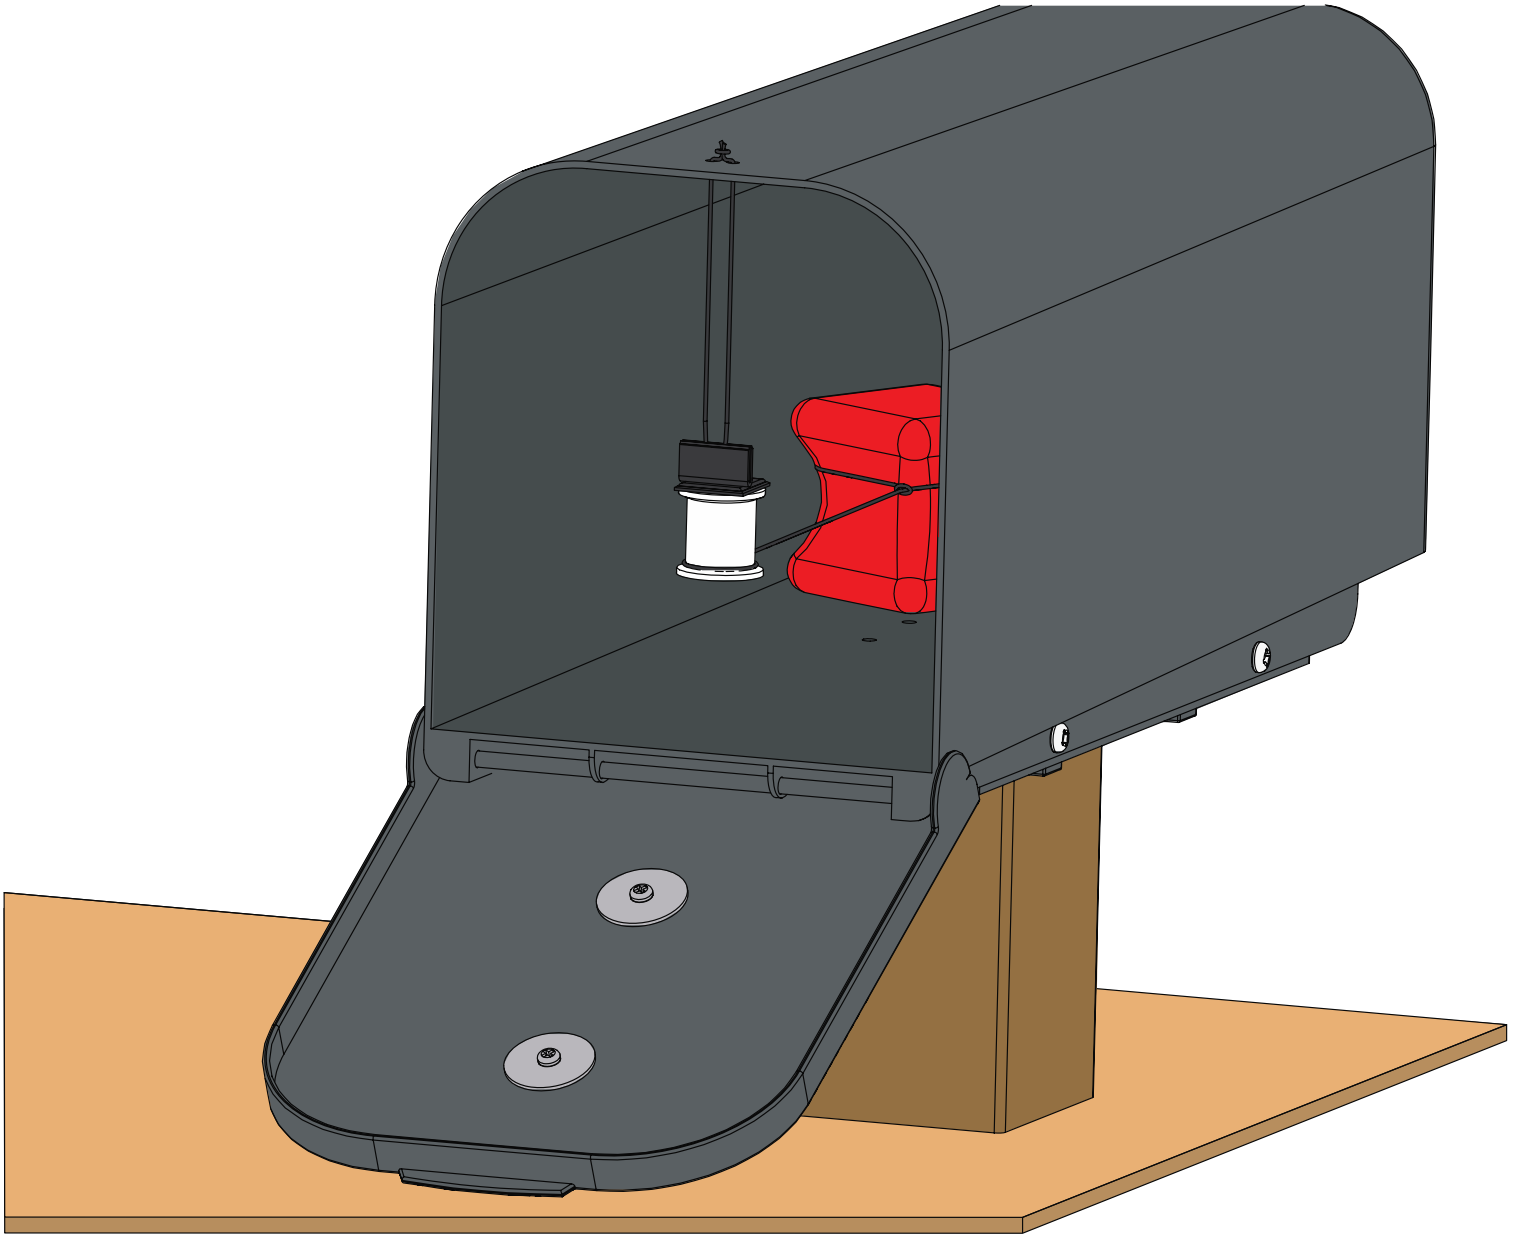

Figure 3
- Third mailbox will be mounted such that the interior bottom of the mailbox will be at least 6" but not more than 7" from the ground. The ordnance should be attached to a smaller target object such as an empty thread spool via a tether at least 6" but not more than 8" long. The smaller target shall be suspended from the roof of the mailbox approximately 2" in from the entrance and the top of the target should not be more than 9" from the ground. The string that suspends the smaller target should be securely attached to the roof of the mailbox but have hook-and-loop fastener at the bottom that is used to attach to the smaller target. The ordnance will be placed inside the mailbox at the end of the tether, so that the robot will have to grab the smaller target first, pull it loose from the hook-and-loop fastener at the bottom of the string, and use it to drag the ordnance close enough to the entrance of the mailbox so the robot can release the smaller target and grab the ordnance itself to remove it from the mailbox and successfully set it on the ground. (See Figure 3.) Using the smaller target to drag the ordnance completely from the mailbox by only engaging the smaller target will not be considered a successful removal. For a successful removal from this mailbox, the ordnance itself must be engaged by the robot arm mechanism and in a controlled motion be removed and set on the ground. The smaller target and tether should only be used to drag the ordnance from deeper in the mailbox and position it so it can be engaged directly by the robot arm mechanism.